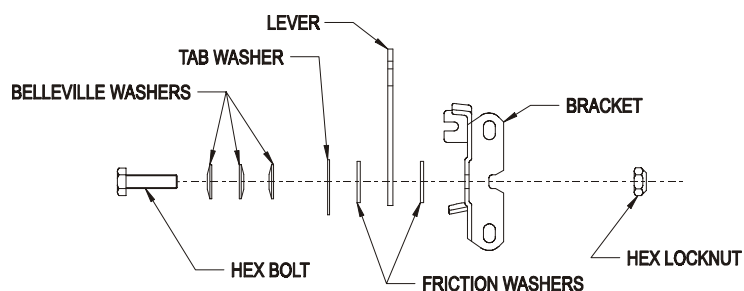

FIG. 12
- b) Tension in throttle lever can be adjusted by adjusting the tightness of the lever pivot bolt, which is located under the console (See Figure 12).